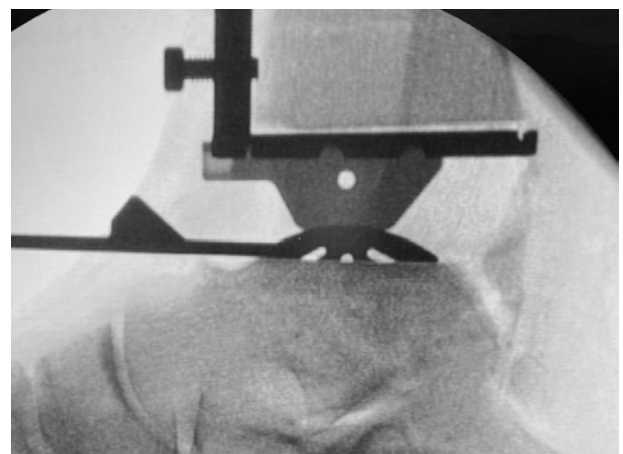

Fig. 23
- 2.5 In a lateral view, align the talar trial with the lateral process. The chamfer locations are indicated by the slots (Fig. 23).
- 2.6 Ensure adequate AP coverage of the tibial trial and use the anterior screw to adjust AP position as necessary. The standard length tibial implant is indicated by the posterior slot on the trial. The "Long" implant is the posterior edge of the trial (Fig. 23).